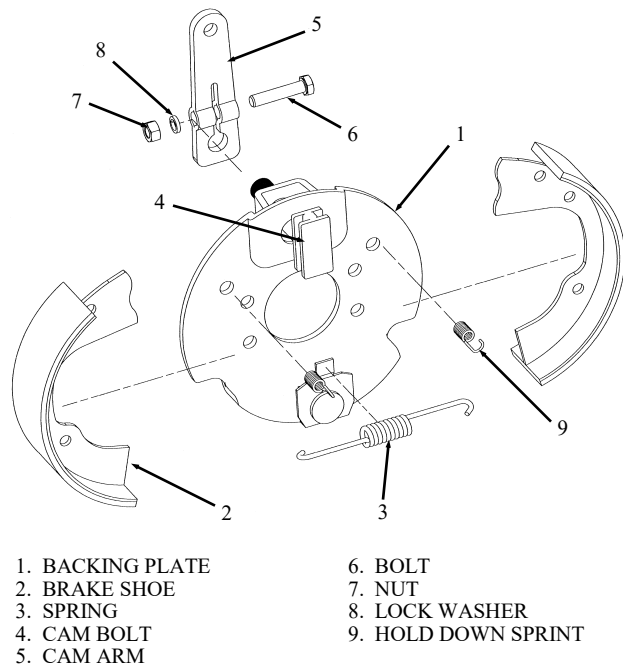

Figure 5-9. Mechanical Parking Brake
- Remove cotter pin (13) and clevis pin (14) to release clevis (12).
- Unthread clevis (12) from cable (11).
- Remove nut (15) and remove cable housing (11) from bracket.
- Remove nut at opposite end of cable and disassemble cable linkage parts (6), (7), (8), and (9).
- Remove nut (4) to release cable equalizer (5).
- Remove nut at opposite end of cable and release cable by disassembling cable linkage from brake handle (1).
- Remove bolts (2) and nuts (3) to free brake handle (1).
5.3.4.3.2 Mechanical Brake Assembly. The mechanical brake assembly is disassembled by following the steps described here. The assembly can be disassembled while attached to the rear spindle or removed from the unit. (See Figure 5-9).
- Remove brake cable end from arm (5) as described in Paragraph 5.3.4.3.1, step (a).